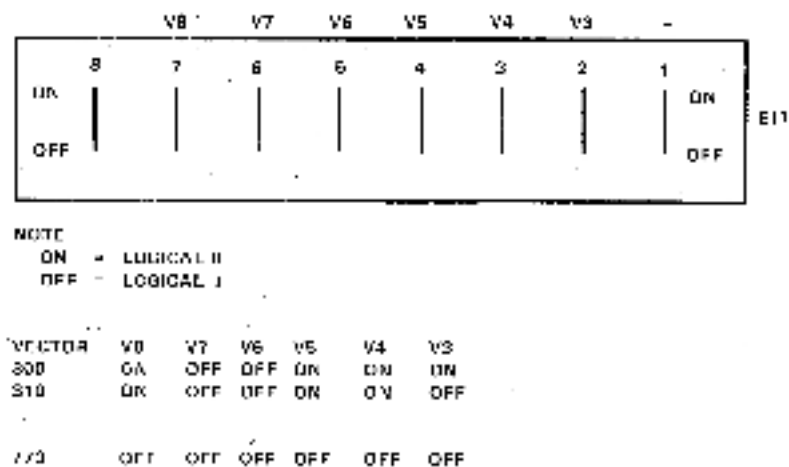

Figure 2-2 M7819 Vector Selection
- Vector selection is accomplished by the 8-position switch at T11. Switch positions 1 and 8 are not used. Switch position 2 corresponds to vector bit 3, 3 corresponds to vector bit 4, etc. When a switch is closed (on), a binary 0 is decoded. When a switch is open (off), a binary 1 is decoded. Note that this is opposite of the address switch decoding. (See Figure 2-2.)